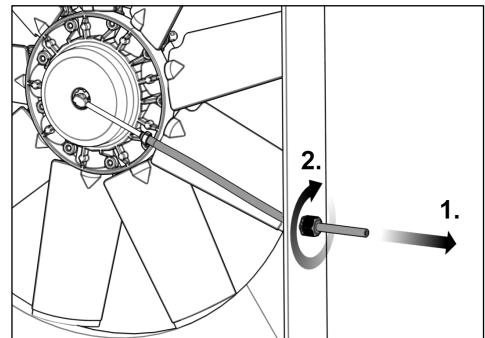

Fig. 31
- 24) Tension the pressure hose (see Fig. 31 step 1) so that the air intake assembly can rotate slightly (max. 15°).
- 25) Secure the pressure hose using the strain relief (see Fig. 31 step 2).